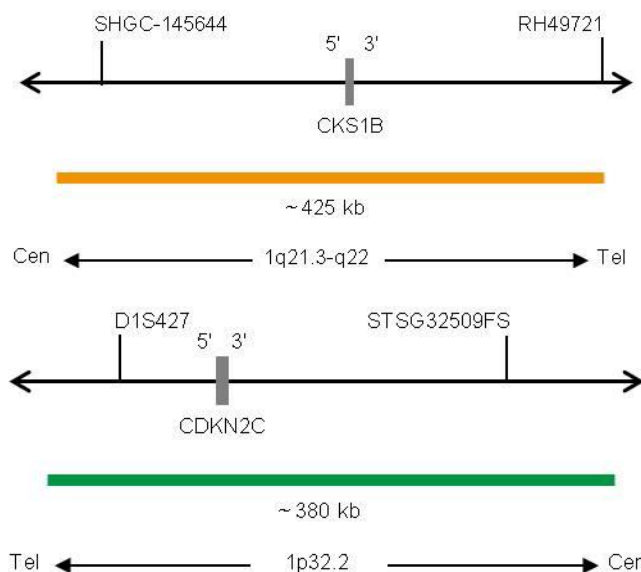

Fig. 1: Top: SPEC CKS1B Probe map; Bottom: SPEC CDKN2C Probe map (not to scale)
- ZyOrange (excitation 547 nm/emission at 572 nm) labeled polynucleotides (~4.5 ng/μl), which target sequences mapping in 1q21.3-q22* (chr1:154,722,168-155,144,639) harboring the CKS1B gene (see Fig. 1).
- ZyGreen (excitation 503 nm/emission 528 nm) labeled polynucleotides (~10.0 ng/μl), which target sequences mapping in 1p32.2* (chr1:51,196,272-51,577,984) harboring the CDKN2C gene (see Fig. 1).